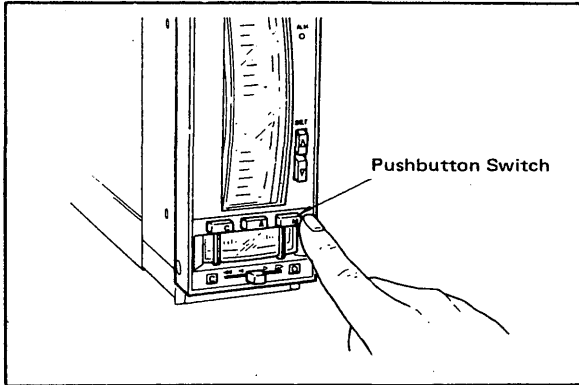

Figure 5-3-1. Selecting the Control Mode.
- (1) Manual operation with manual control lever
- (a) From the C/A/M selector switches, select **M**. (The lamp inside the pushbutton lights, see Figure 5-3-1.)
The operating mode of the station can be freely changed by depressing the **C**, **A** or **M** pushbutton switches. (See Figure 5-3-1). (However, note that direct transfers from **M** to **C** mode are not allowed.)